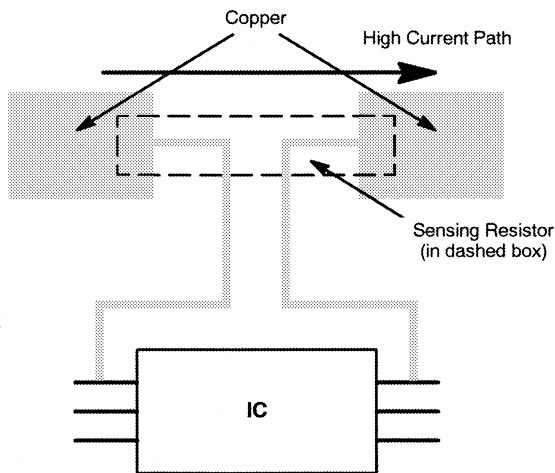

FIGURE 11. Sensing Resistor Kelvin Connection
- Minimize the trace length of current sensing. Use a Kelvin connection (Figure 11) to avoid any error caused by load current.